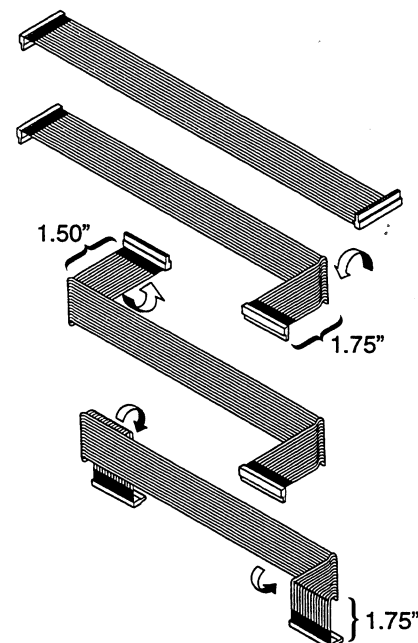

Figure 2-3. Folding the 15-Position Cable
9. Fold the 15-position flat ribbon cable as shown in Figure 2-3.